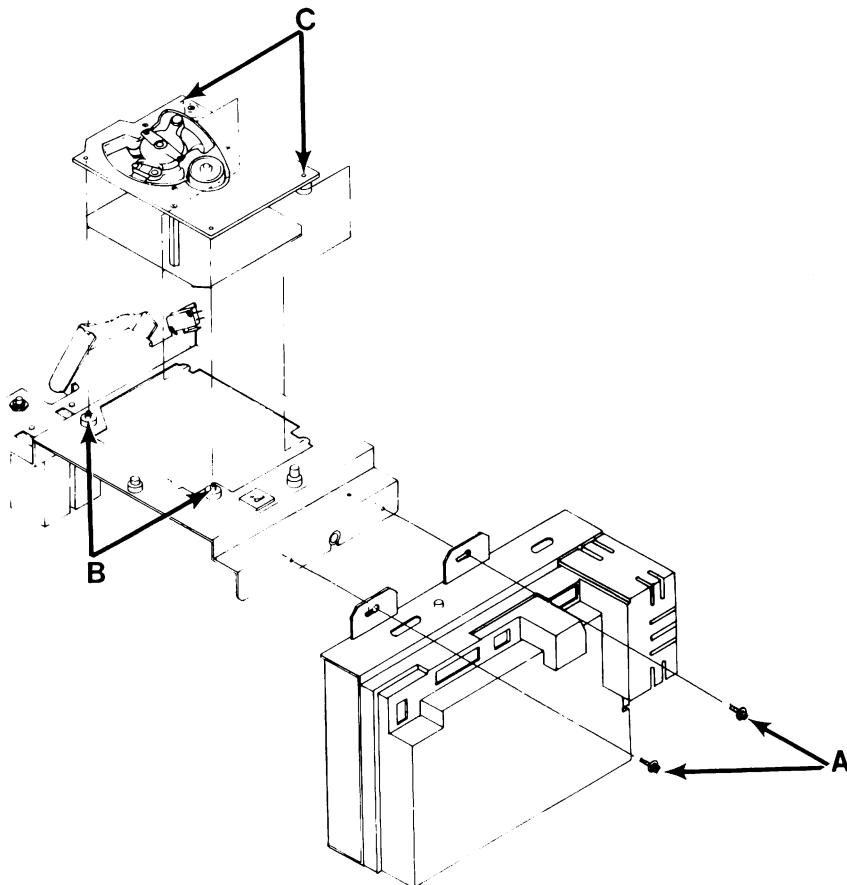

Figure 6-1. Removing the CD Player
2. Remove all connectors from the mechanism control unit, loosen the two top screws (*figure 6-1, ref. A*), and remove the mechanism control unit.
Loosen the two front mounting screws (These screws remain part of the phonograph. See *figure 6-1, ref. B* on the underside of the CD player mounting plate).